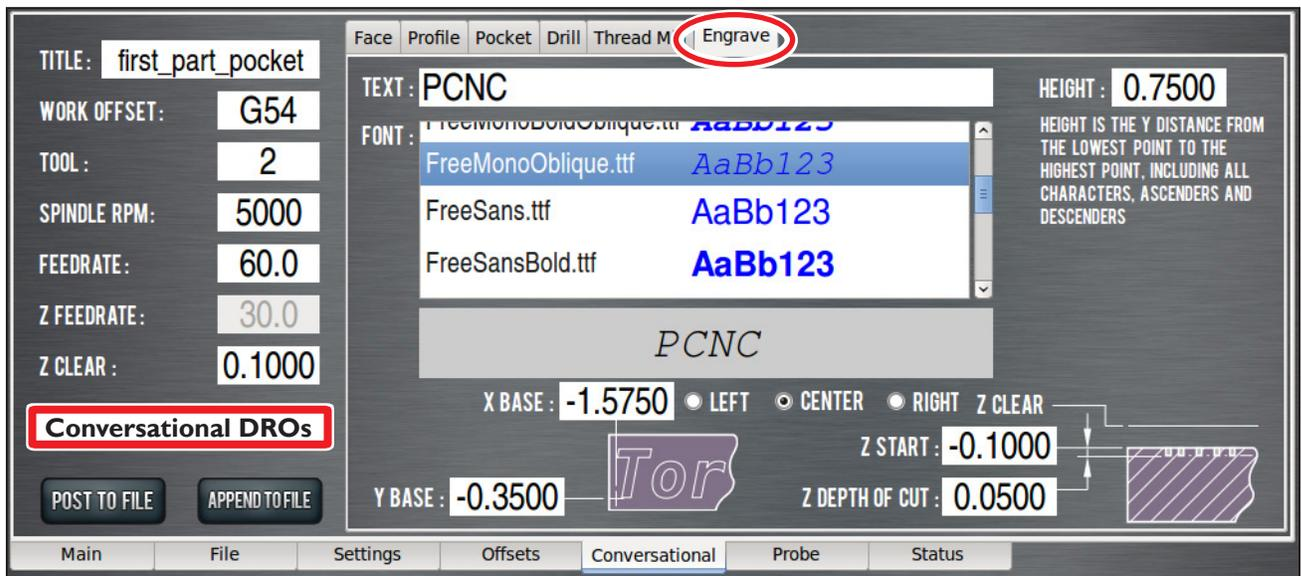

Figure 5.13
Go back to the Conversational pages and click on the *Engrave* tab (see **Figure 5.10**) and the Engrave screen opens (see **Figure 5.13**). Enter the values shown in **Figure 5.13**, *Conversational DROs*. Make sure to enter *PCNC* in the text field (see **Figure 5.13**).
1. Select the *FreeMonoOblique.ttf* font (see **Figure 5.13**) and change the tool DRO to 2 for the engraving operation.
2. Click the *Append to File* button (see **Figure 5.13**). A file chooser dialog opens that allows you to select the file to which you want to add the engraving G-code.